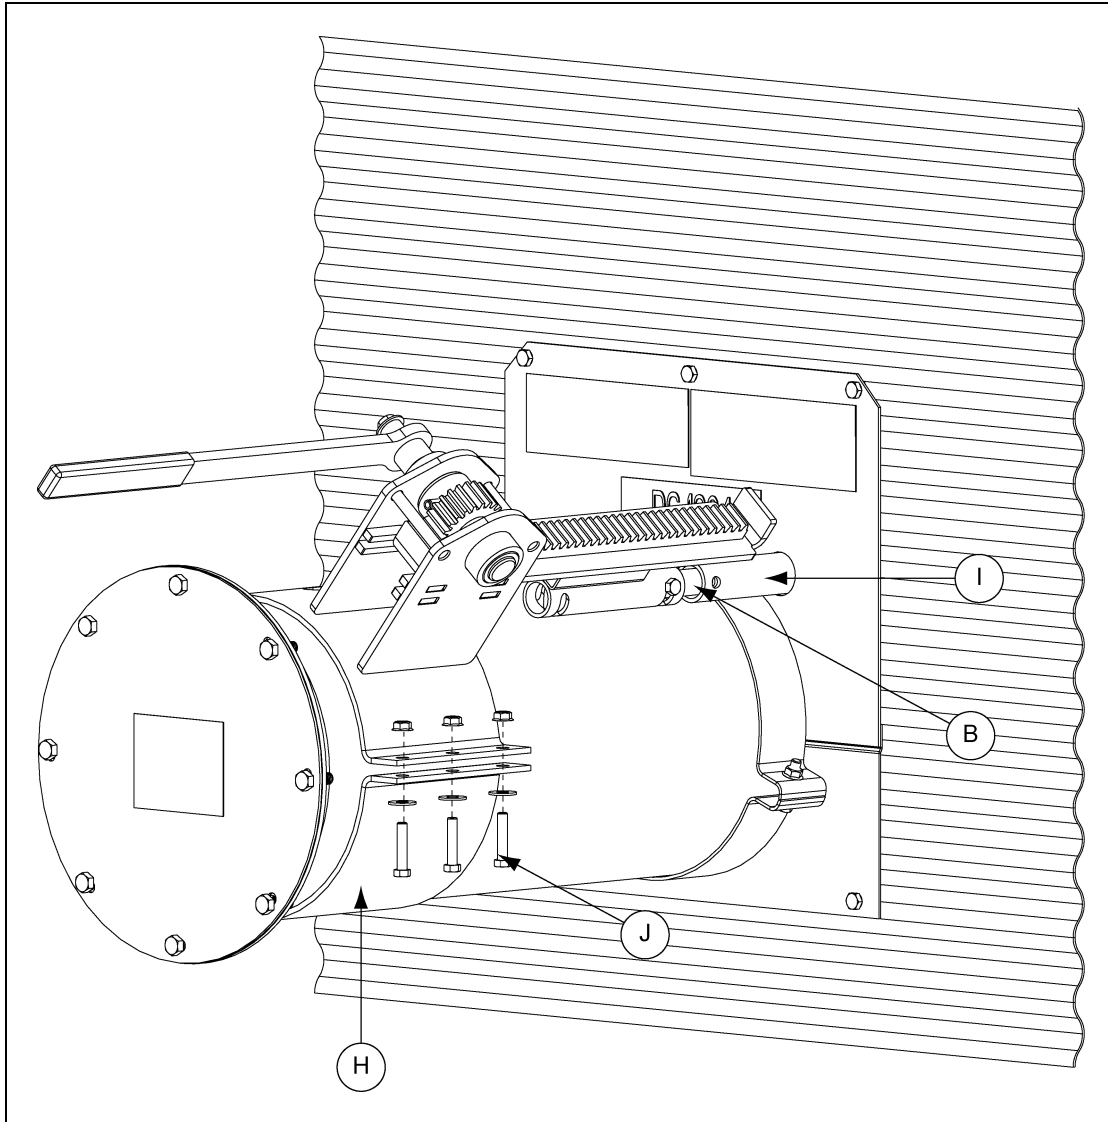

Figure 4P 8" and 10" Systems
5. With rack and pinion fully extended, attach lower half band and secure to unload tube with six (6) 5/16" x 1-1/2" bolts, washers and serrated flange nuts. (See Figure 4P.)